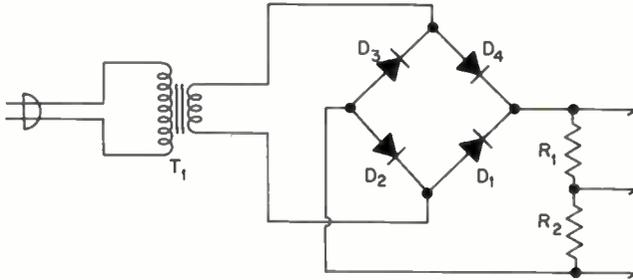
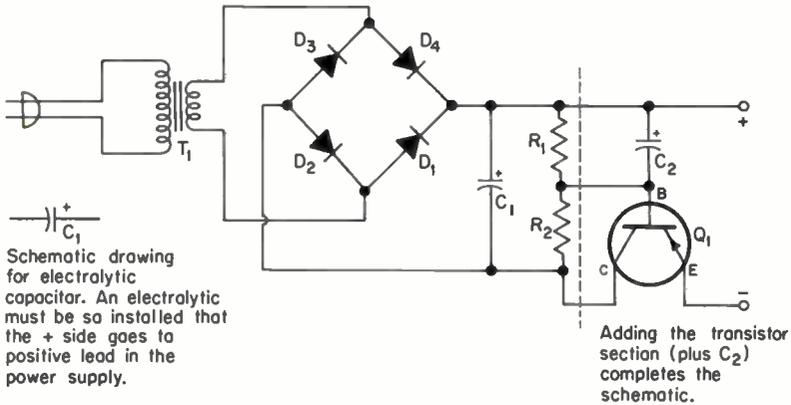

Fig. 70 Diodes D_2 and D_4 added to the schematic.
Fig. 71 Complete schematic diagram for power supply.
Which path we take next is immaterial, but we've completed the diode connections, as shown in Fig. 70, by adding to our drawing diodes D_2 and D_4 . Now, we trace out the connections to PNP-type transistors Q_1 and complete all three leads of the transistor at this time. We complete the schematic diagram by adding the two capacitors C_1 and C_2 to our circuit. Figure 71 shows the complete schematic diagram.
- (1) DC to DC.
- (2) DC to AC.
- (3) AC to AC.
- ④ AC to DC.
9. What's the function of the electrolytic capacitor connected across the diode bridge in Fig. 71?
- ① Filters out the ripple in the rectified AC
- (2) Rectifies AC to DC
- (3) Has no purpose
- (4) Supplies voltage to Q_1
10. What other component besides C_1 and C_2 in the power-supply circuit in Fig. 71 helps smooth out the AC ripple?